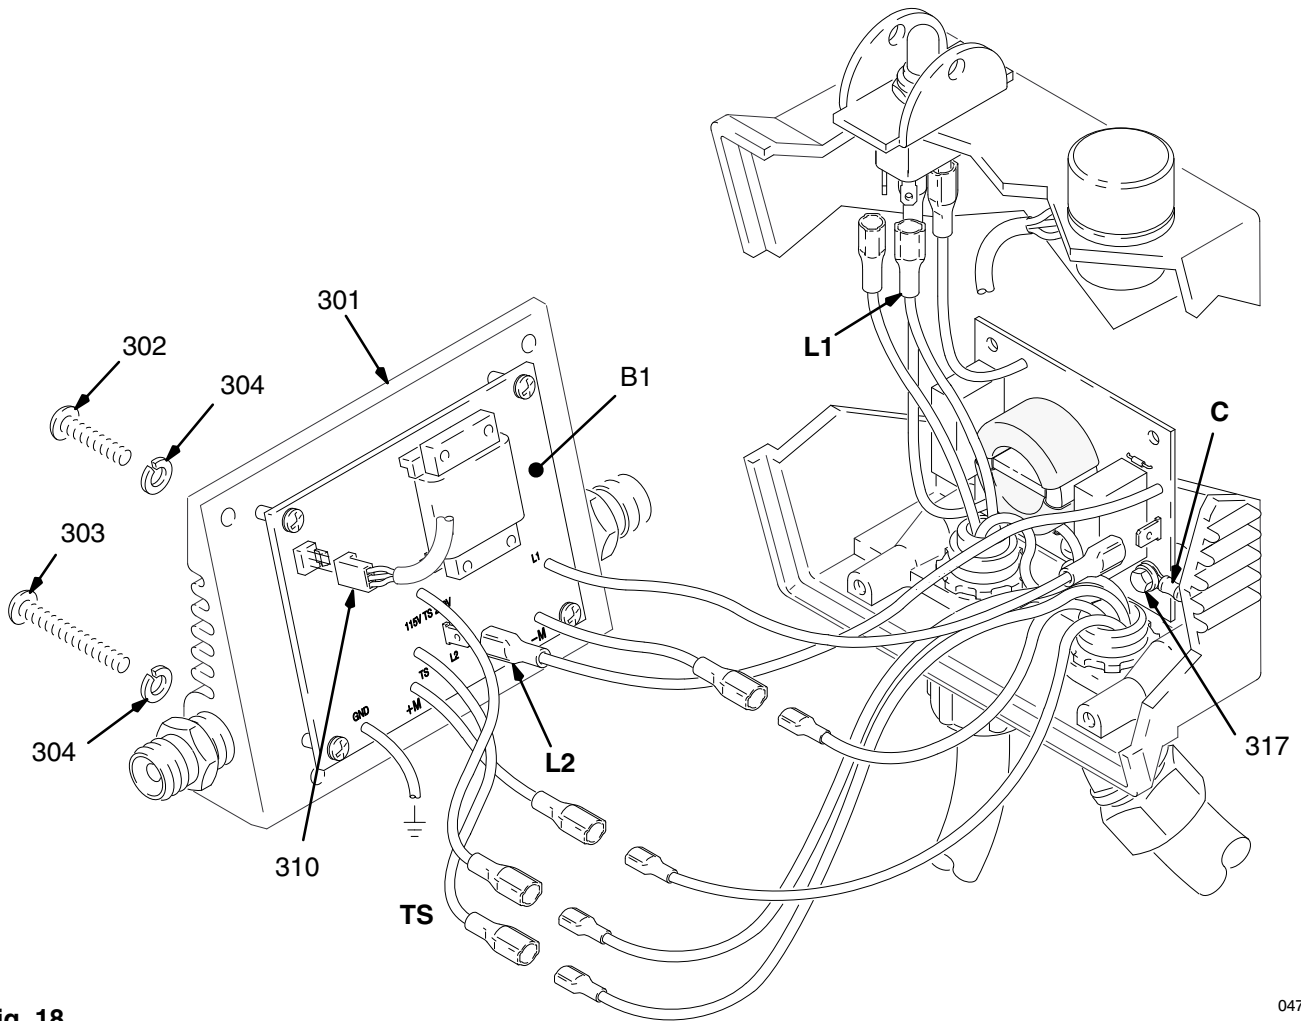

Fig. 18
3. Remove the four mounting screws and washers (302, 303, 304) from the pressure control board/cover (301). See Fig. 18.
4. Carefully remove the pressure control board/cover (301) so as not to stress the cables.
5. Remove the potentiometer cable (310) from the pressure control board/cover (301).
7. Disconnect the red motor leads from the TS leads on the pressure control board/cover (301).
10. Loosen the ground terminal screw (317) and disconnect the ground lead (C).